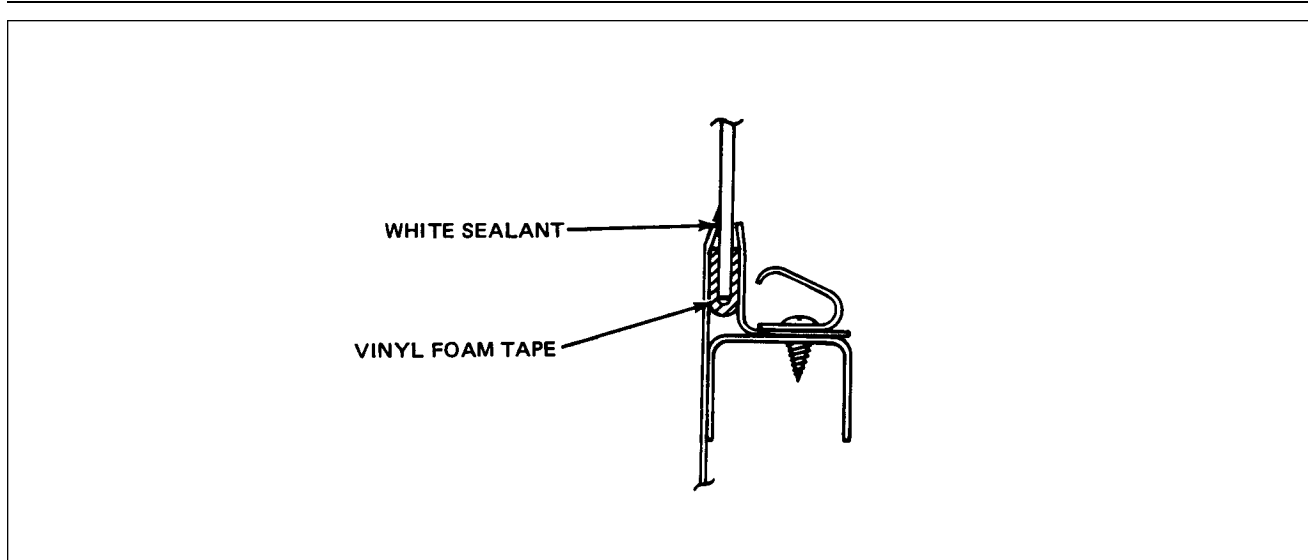

Figure 4-6. Side Window Installation (Typical)
**4-35. INSTALLATION OF SIDE WINDOWS. (Refer to Figure 4-6.)**